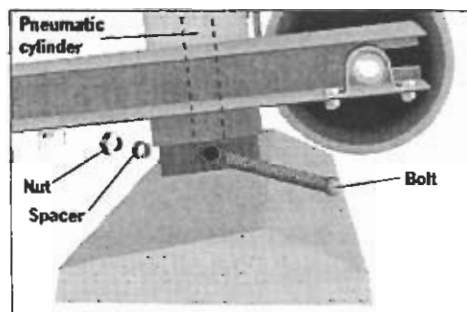

Figure 16
4. Replace the bolt through the pneumatic cylinder and the tower. Place the spacer and nut onto the bolt and tighten (Figure 16).